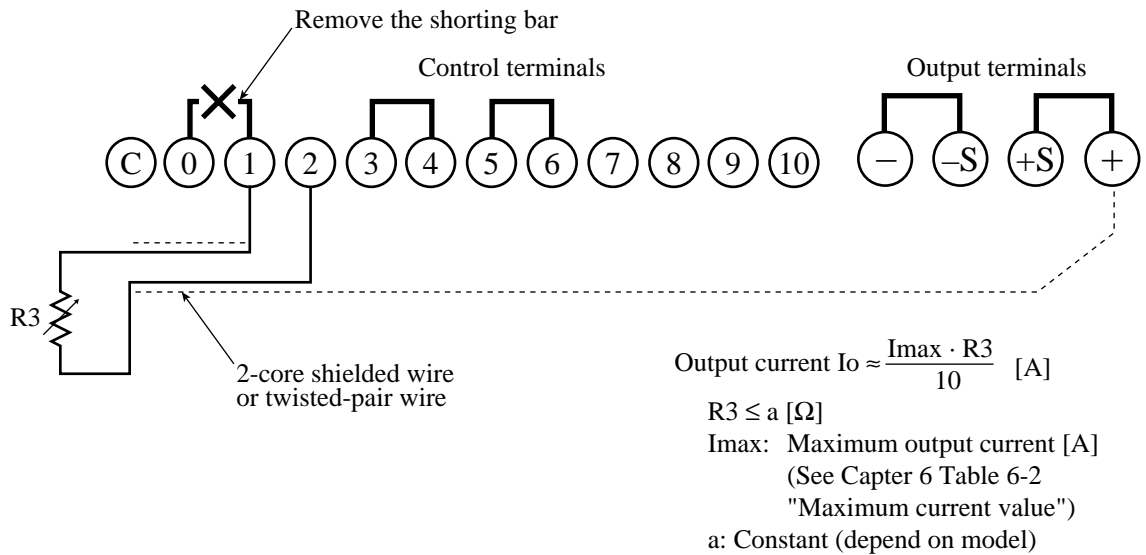

Fig. 4-11 Connections for output current control with external resistor
2. As shown in Fig. 4-11, remove the shorting bar across the control terminals 0 and 1.
3. Connect an external resistor (R3) across the control terminals 1 and 2 as shown in Fig. 4-11.